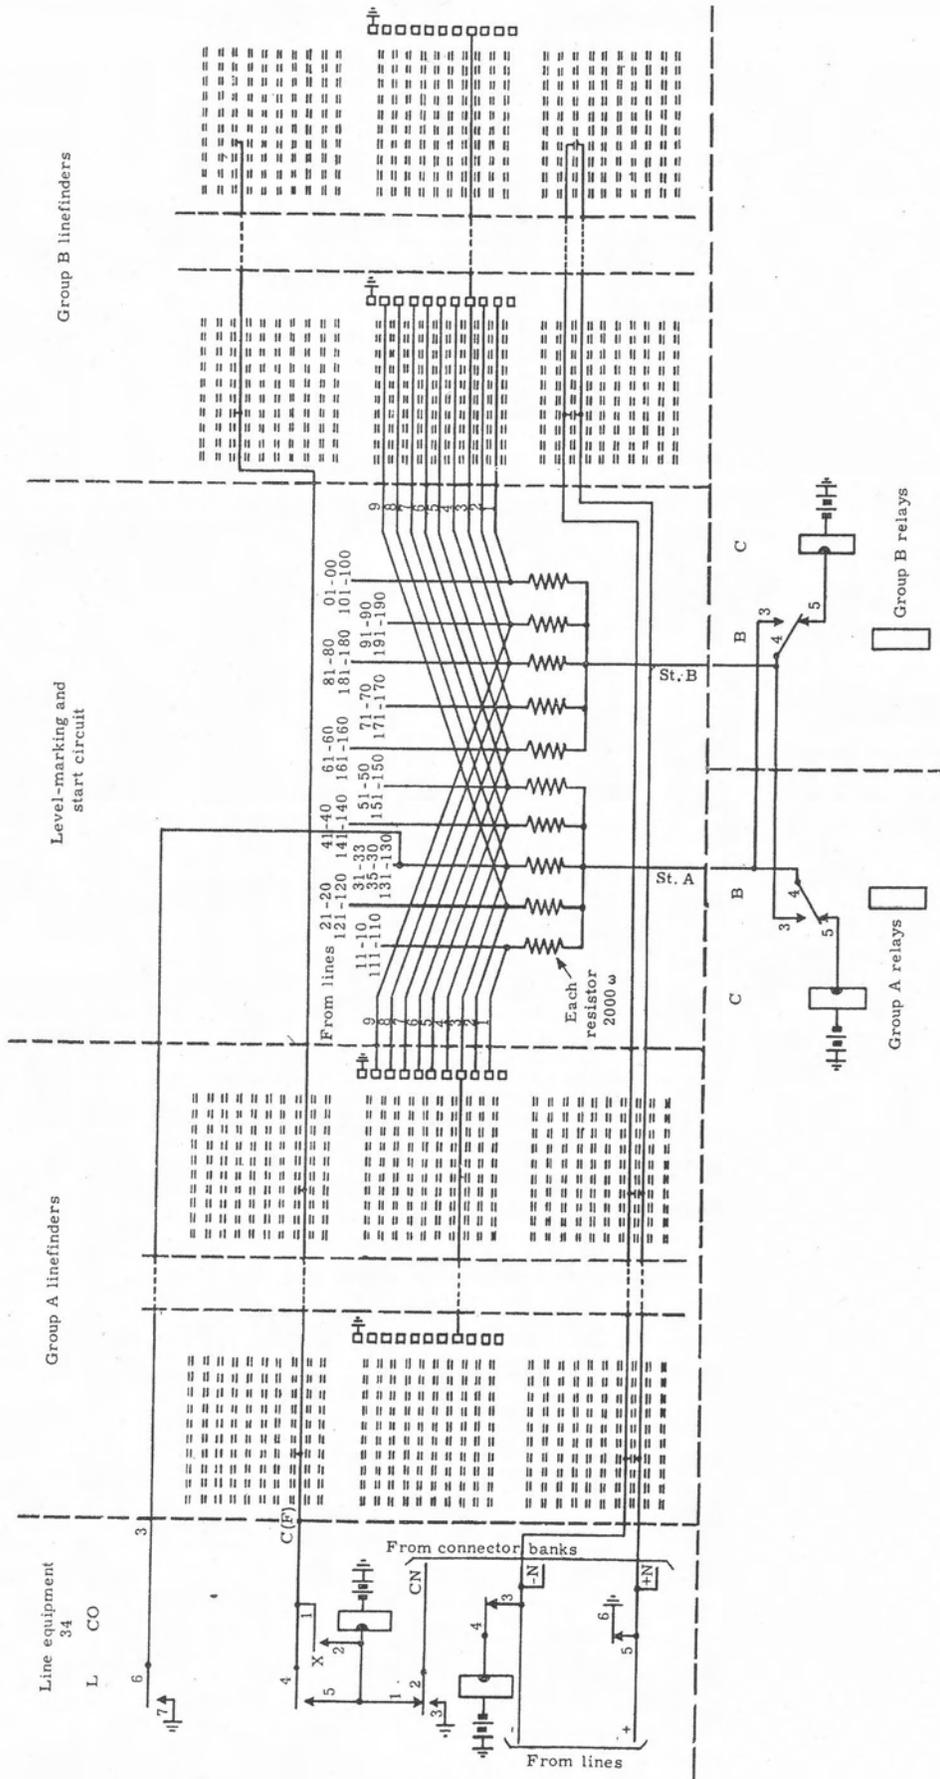

Figure 13. Group-relays seizure.
The wiring between the vertical contacts of group A and group B linefinders is also reversed so that when group A level 3 is marked, group B level 8 also is marked (figure 13).
4.4 Rotary stepping. Upon operating, relay A operates the rotary magnet of the linefinder (figure 17). The rotary magnet rotates the shaft and wipers one step and opens the rotary-interrupter contacts. (When the bank-contact wipers rotate, the vertical wiper swings away from the vertical bank.) The rotary-interrupter contacts release group relay A which releases the rotary magnet. Upon releasing, the rotary magnet closes the rotary-interrupter contacts which operate relay A. This cycle is repeated until the control wipers touch the marked control bank contact. If the higher-numbered line is calling, its line relay is operated and its cut-off relay operates in series with relay K. If the lower-numbered line is calling, its line relay is operated and its relay CO operates in series with relay J. Relay J or K opens the circuit to the rotary magnet to prevent further rotary stepping. Relay CO locks and removes the line relay from across the subscriber's line. Upon releasing, relay L removes ground from its level-marking and start lead (figure 13),
Figure 25. Circuits which "time out" a faulty linefinder or group relays, light the FINDER BLOCKED lamp, and release group relay B (which [figures 13 and 24] transfers traffic to other group).